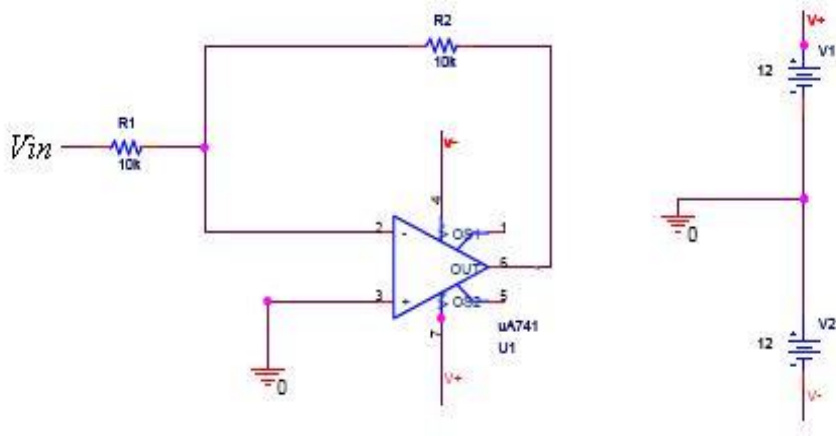

Fig. 2
- Implement the circuit as shown in fig.2